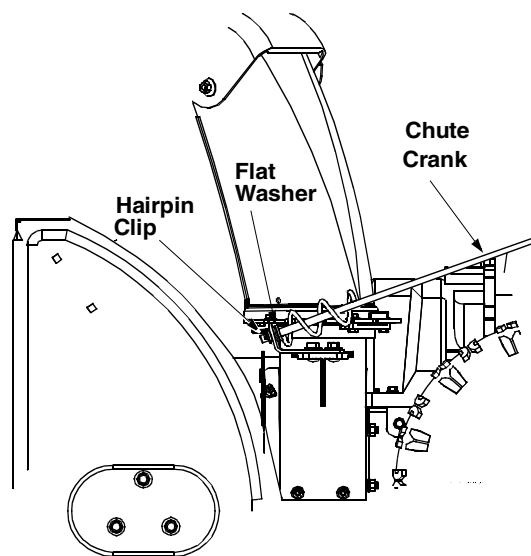

Figure 29
- Disconnect chute crank assembly at the discharge chute by removing the hairpin clip and the two flat washers. See Figure 29 .